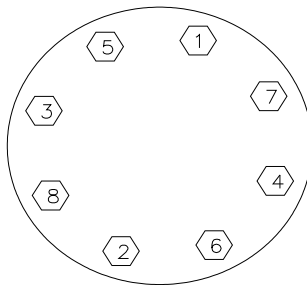

Fig 3.5: Initial Centering & Flanging of Valve
5.3 Center valve, span body with bolts, but do not tighten. Slowly open disc to ensure that it clears adjacent pipe ID and leave at full open position. Tighten bolts in criss cross pattern refer fig 3.5.
Place the valve between the flanges, centre it and then span the valve body with all flange bolts, but do not tighten the bolts. Carefully open the disc to the full open position, making sure the disc does not hit the adjacent pipe I.D. Now systematically remove jack bolts or other flange spreaders, and hand-tighten the flange bolts as shown in fig.3.5 Very slowly close the valve disc to ensure disc edge clearance from adjacent pipe flange I.D. Now open the disc to full open and tighten all flanges bolts as per specification as shown in fig. Finally, repeat a full close to full open rotation of the disc to ensure proper clearance.